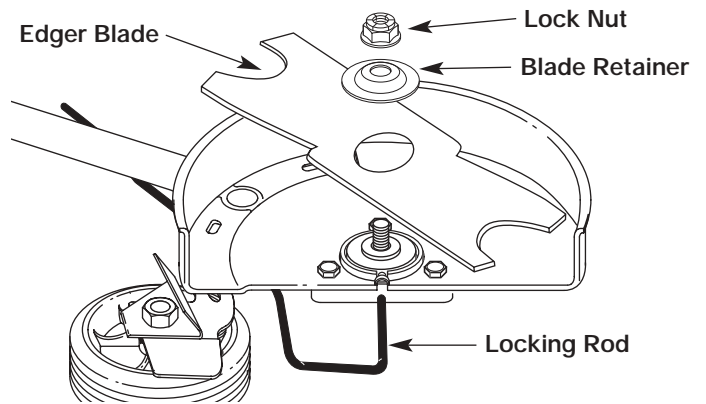
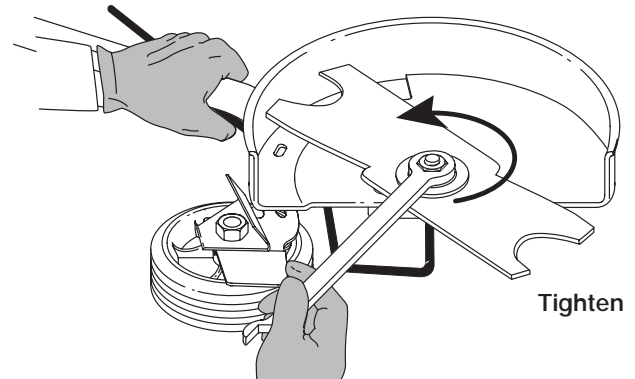

Fig. 10
Fig. 11
4. Install the new blade, blade retainer, and nut (Fig. 10). Insert the locking rod through the slot into the output shaft hole. Make sure that the blade stays flat and centered against the output shaft while tightening the lock nut **counterclockwise** (Fig. 11).
If you do not have a torque wrench, hold the locking rod in the slot. Rotate the nut **counterclockwise** with a 5/8 inch closed-ended or socket wrench, until the nut presses against the washer and the blade is snug. Make sure the blade assembly is installed correctly, then rotate the nut an additional **1/4-1/2 turn** (Fig. 11).